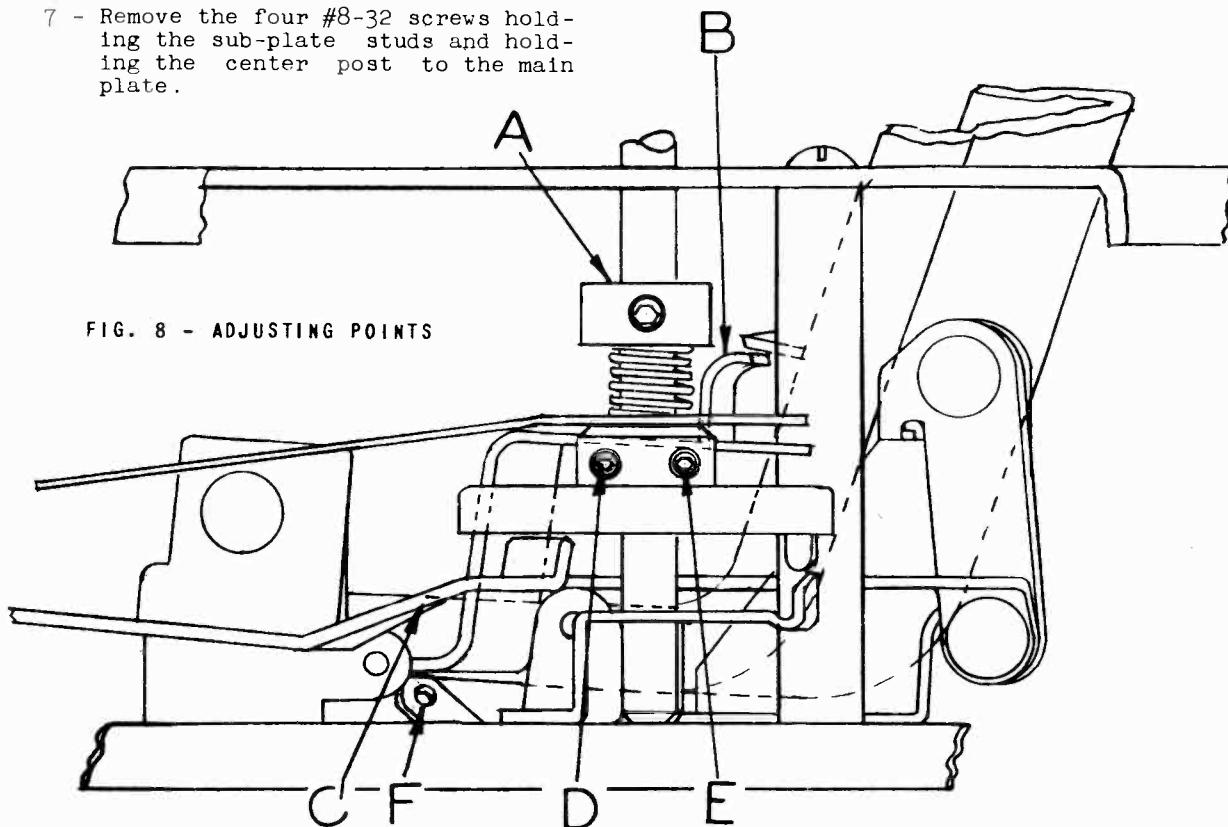

FIG. 8 - ADJUSTING POINTS
- 2 - With no records on spindle, check Automatic Shut Off Lock Lever (Point B, Fig. 8.) Hook end of this arm should catch the Pickup Arm Raising Disc at the beginning of the cycle to prevent travel of the arm and to cause it to drop on the OFF button. With no records on the Spindle, this hook should clear the Pickup Arm Raising Disc by 1/32 inch with the mechanism at rest. Bend lip (Point G Fig. 8) if necessary to make this adjustment. Do not attempt to move Pickup Arm Raising Disc up or down.
- 1 - The needle should approach the top record of a full stack on the turntable with approximately 1/8 inch clearance. Adjust by bending the Pickup Arm Raising Lever at Point C., Fig. 8. Do not attempt to move Pickup Arm Raising Disc up or down.
- 2 - With a #8 Bristol wrench in each of the set screws (Points D and E, Fig. 8) alternately loosen one and tighten the other until the needle rests above the record lead-in groove at the desired point.
When the Pickup Arm is indexed to the OFF position, the lip of the Pickup Arm Raising Disc rests in the groove formed by the inside bevel of the lower Pickup Arm Pivot Shaft Bracket touching the Stud post. (Fig. 8).